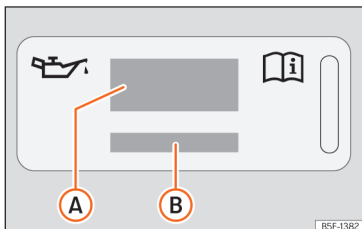
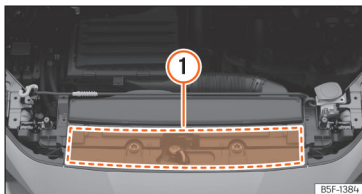

Fig. 240 In the engine compartment: engine oil label
Fig. 241 In the engine compartment: area where the engine oil label is located
Key to the »» Fig. 240:
If the engine oil has to be topped up, use one of the oils shown on the label »» Fig. 240. The label with the prescribed standard is located at the front of the engine compartment »» Fig. 241 ①. If you use the recommended engine oil, you can top up the oil as often as necessary.